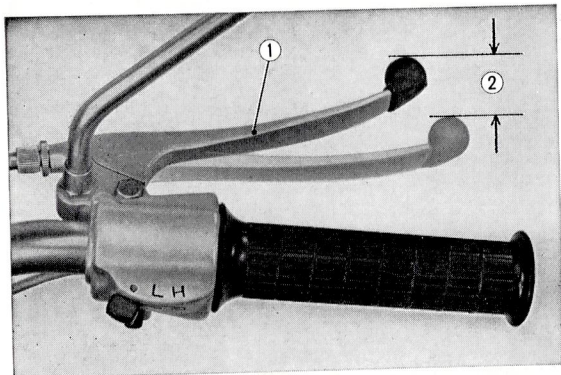

Fig. 6.37 Front brake lever play
amount the front brake lever ① must be moved before the brake starts to take hold. The lever free play ② should be 15~30 mm (0.6~1.2 in) at the end of the brake lever, b. If the brake requires adjustment, there are two places where this adjustment can be made. Normally the adjustment can be made at the brake lever arm ① on the front brake panel. First, loosen the lock nut ② and then turn the adjusting nut ③. Turning the nut ③ in the clockwise direction A will decrease the brake lever play and turning in the counter clockwise direction B will increase the play. c. Minor adjustment can also be made with the circular adjusting bolt on the front brake lever by turning in the same direction as above. (Fig. 6.37, 38)